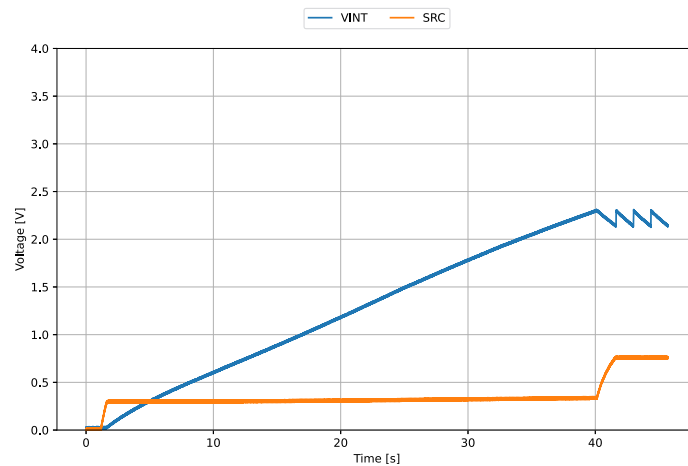
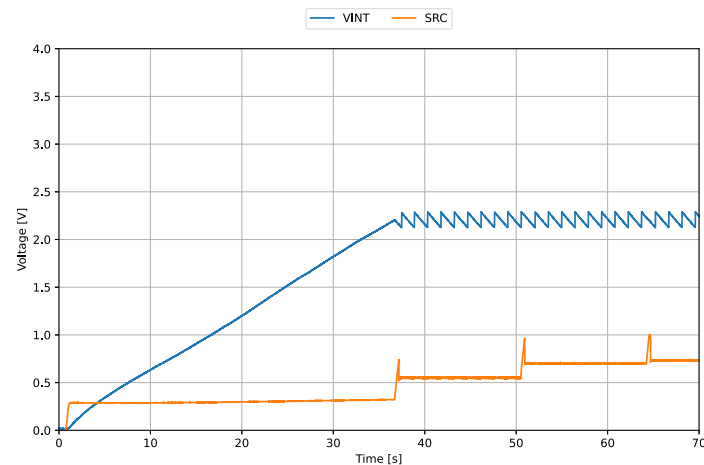

Figure 4: AEM11900 cold-start behavior in constant voltage mode
Figure 5: AEM11900 cold-start behavior in MPPT ratio mode
- For constant voltage mode (Figure 4):
- For MPPT ratio mode (Figure 5):
- Once V_{INT} has reached its regulation voltage, the AEM11900 will regulate V_{SRC} either to $V_{SRC,REG}$ if in constant voltage mode (see Figure 4), or to V_{MPP} with V_{OC} evaluations every 15 s if in MPPT ratio mode (see Figure 5).
- Note that, in MPPT ratio mode (see Figure 5), during the first V_{OC} evaluation, the source current is insufficient to charge C_{SRC} up to the V_{OC} within $T_{MPPT,SAMPLING}$, resulting in a lower V_{MPP} compared to the target. However, the following evaluations allow a correct measurement of V_{OC} and thus, an accurate source voltage regulation. This behavior is explained in Section 3.3.2.